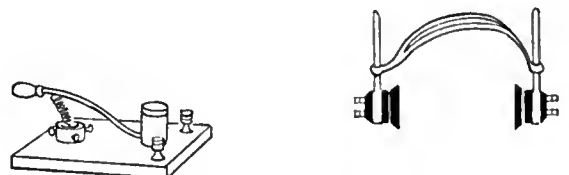

FIG. 462
16. In your notebook connect by pencil line the parts of a simple wireless receiving set like the one in Figure 462.